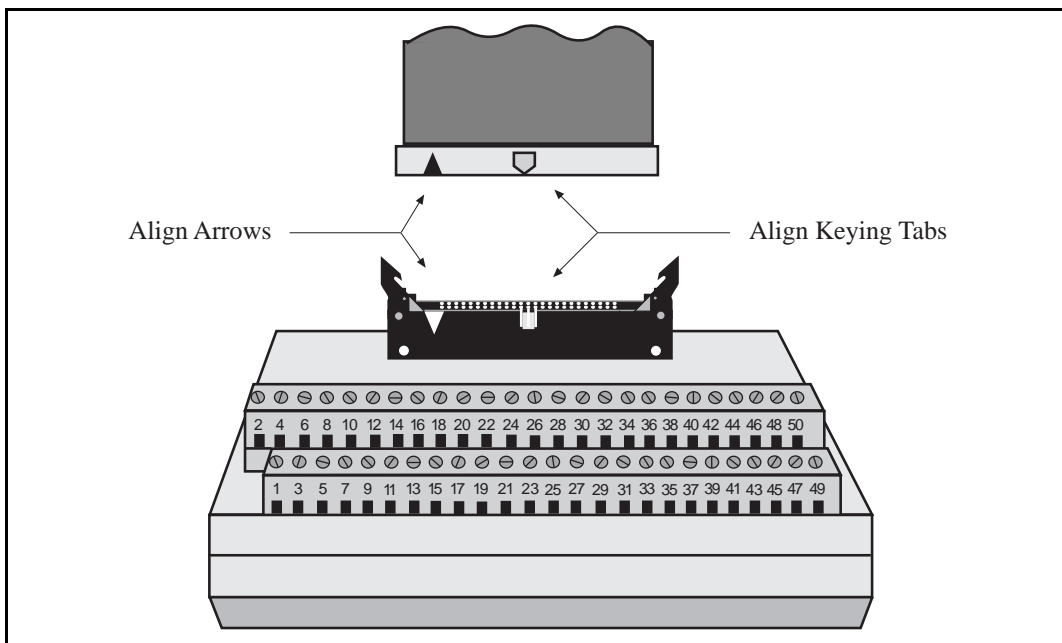

Figure 6. Connecting the Cable to the Connector Block
6. Plug one of the 50-pin connectors on the free end of the ribbon cable into one of the connector blocks. Align the tabs and arrows as shown in Figure 6.